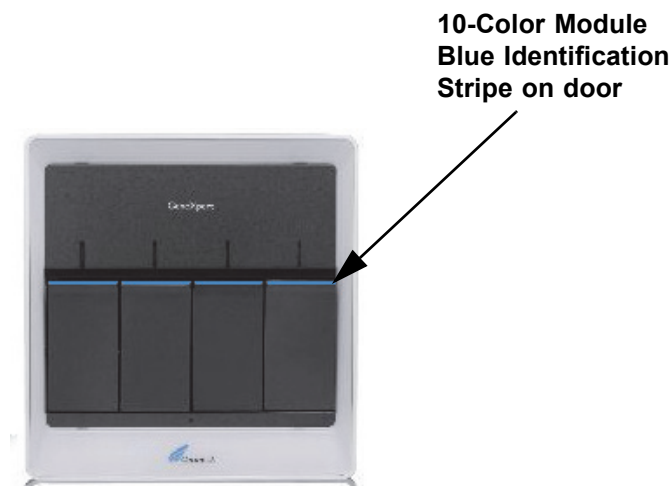
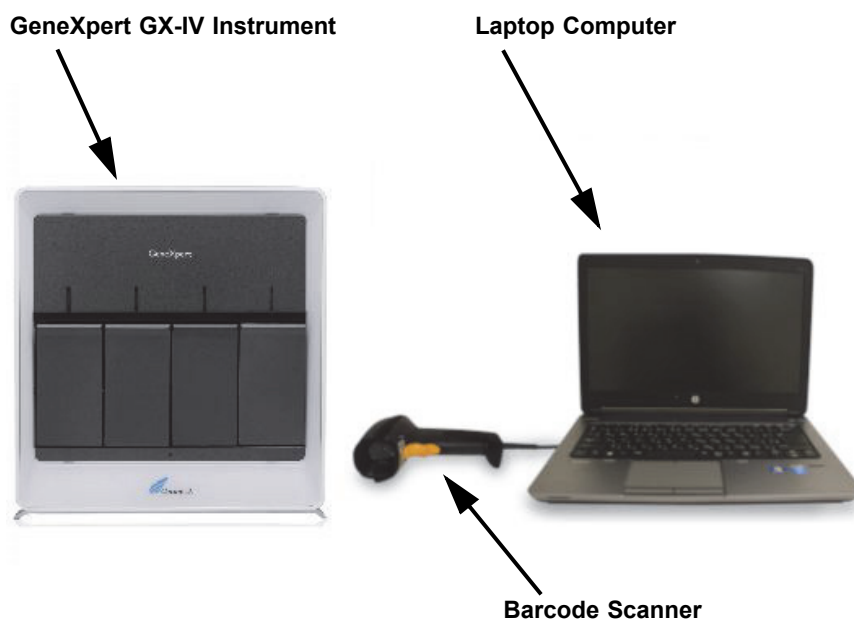

Figure 1-1. GX-IV Instrument, showing 10-Color Modules
Figure 1-2. GeneXpert GX-IV Hardware Components (Shown with the Laptop Computer)
- GeneXpert instrument refers only to the components used to process the samples. See Figure 1-1 and Figure 1-2, for examples of GeneXpert instrument configurations.
An instrument will only contain 10-color modules. The 10-color module can be identified by a blue stripe on the upper edge of the module door, as shown in Figure 1-1. See Section 3.7 for further information on module types.